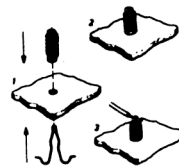

Fig. 2.
Line-up the holes on the plate and the card and then push hairpin springs (20) through the plate and card from underneath. (Fig.2).